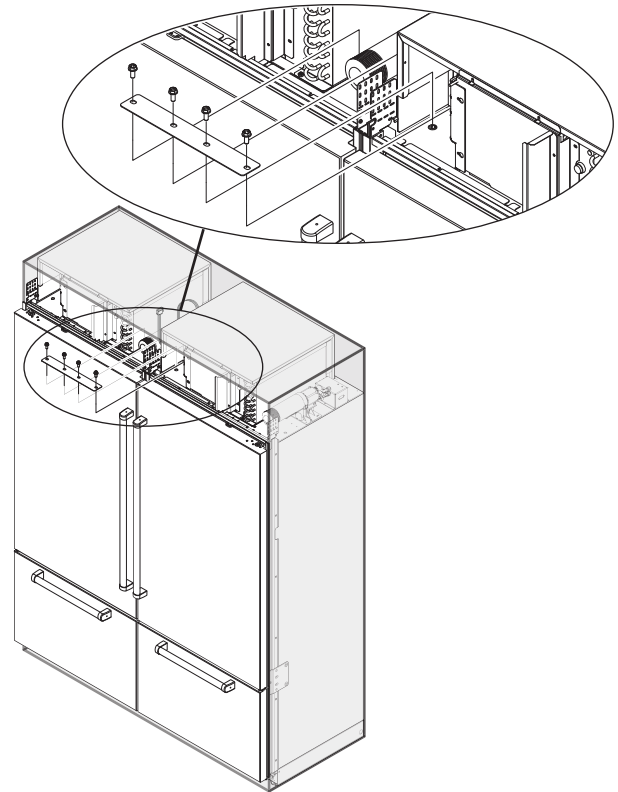

Figure 10. Join Units Together at Top
1. Working the Dual Installation Top Bracket from the side, line the holes of the top bracket up with the threaded inserts at the top adjoining corners of the appliances (See Figure 10).
2. Insert four 5-/16-18 X 3/4" Tensilock Bolts down through the bracket into the threaded inserts and tighten the bolts (See Figure 10).